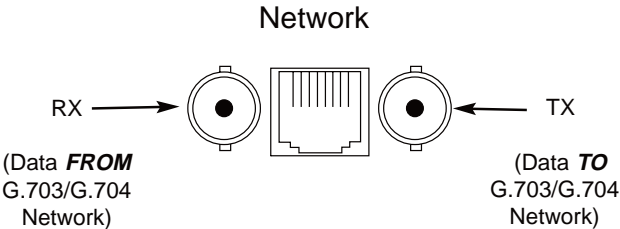

Figure 7. 75-ohm Dual Coaxial G.703 Interface
G.703/G.704 network terminates via dual coaxial cable, use the diagram below to make the proper connections. The connector pinout and signals are shown in Figure 7.